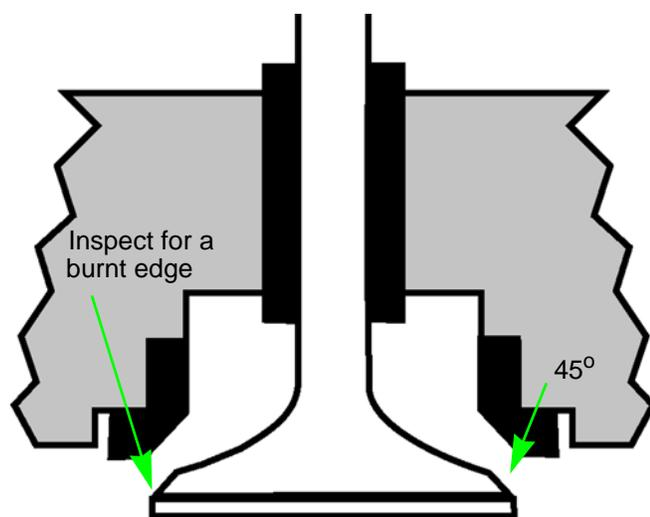

Figure 9.11
7. Inspect the valve stem. See Figure 9.11.